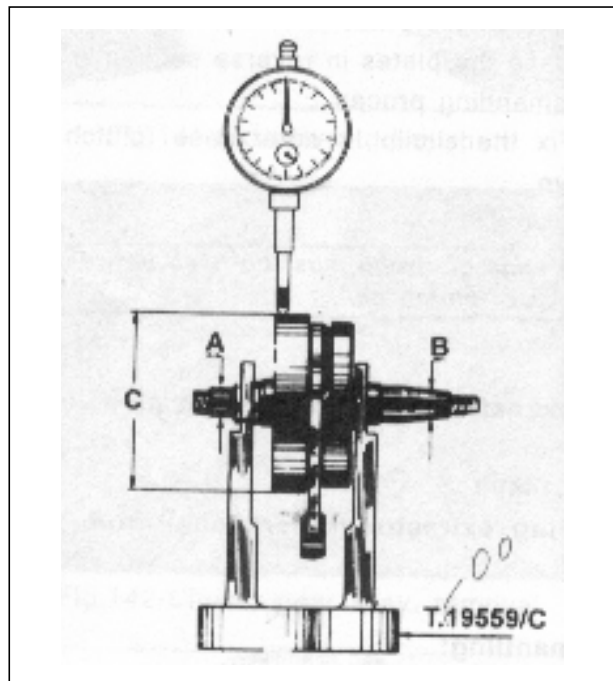

Fig. 150-Jig for checking alignment
- (a) Place crank shaft assy. on jig T-0019559/C. (Fig.150)
- (b) Check eccentricity of dia 'C'. (Fig.150)